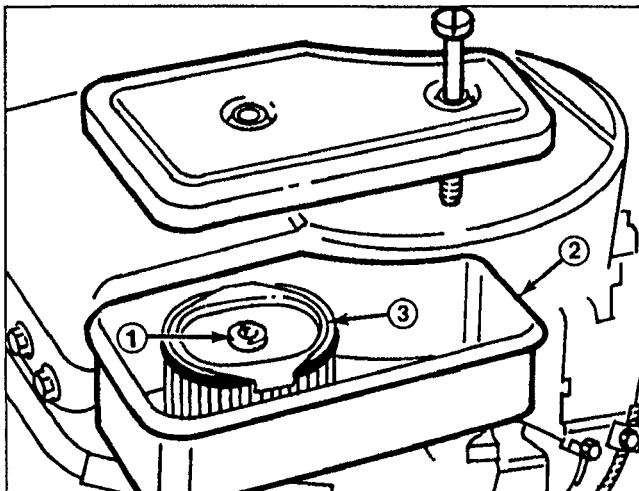

Figure 21
3. Remove plate screw, washer and plate (Fig. 21).